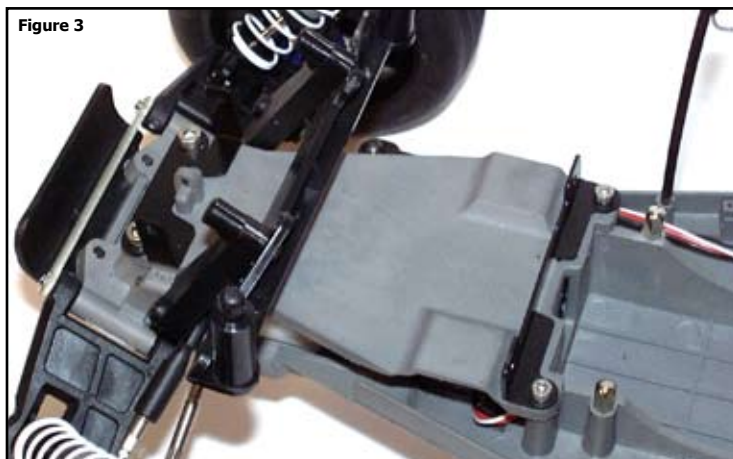

Figure 3
2. Remove the stock flat-head screws from the upper chassis plate. Attach *Cagemount 1* with (2) M4x10 SHCS, and *Cagemount 2* with (2) M3x10 SHCS, as shown in *Figure 3*.